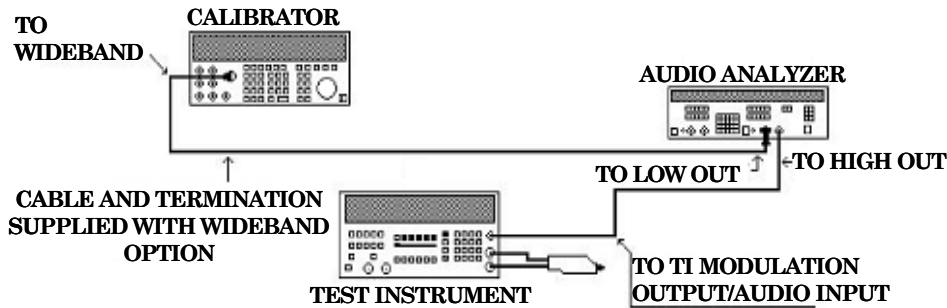

Figure 14. Audio measurement setup.
(16) Slowly step the calibrator output frequency down to 380 Hz in 2 Hz steps while observing the TI distortion indications at each step. If TI indication is not  $\leq 0.3\%$ , perform **b** below.
(17) Press TI keys as listed in (a) and (b) below:
(18) Set calibrator output to a frequency of 950 Hz at a level of 3 V.
(19) Slowly step the calibrator output frequency up to 1050 Hz in 5 Hz steps while observing the TI distortion indications at each step. If TI indication is not  $\leq 0.3\%$ , perform **b** below.
(20) Change calibrator output level to 100 mV.
(21) Slowly step the calibrator output frequency down to 950 Hz in 5 Hz steps while observing the TI distortion indications at each step. If TI indication is not  $\leq 0.3\%$ , perform **b** below.
(22) Press audio analyzer **OUTPUT, FLOAT** key.
- (23) Connect equipment as shown in figure 14.
- (24) Set audio analyzer source output to 1 kHz at a level of 3 V.